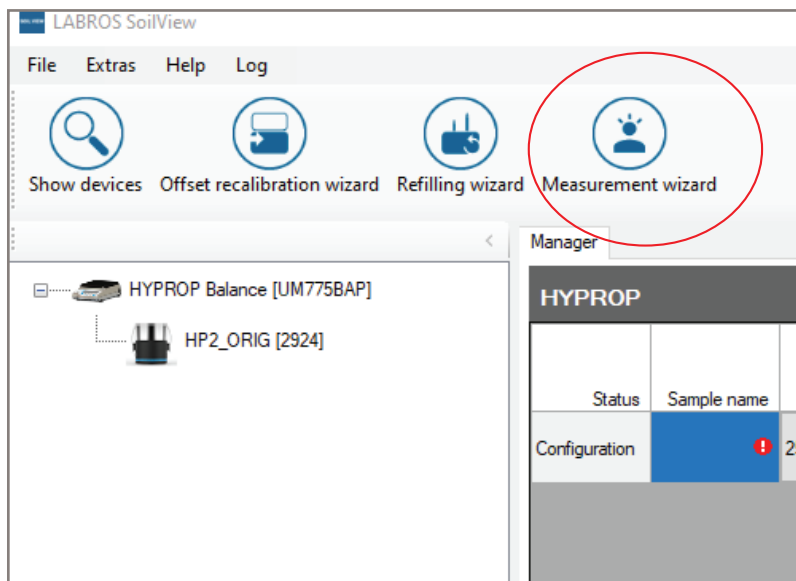

Figure 60 Measurement Wizard icon
1. Open the Measurement Wizard by clicking on the Measurement Wizard icon (Figure 60).
4. Select **Apply** to start the measurement (Figure 60).